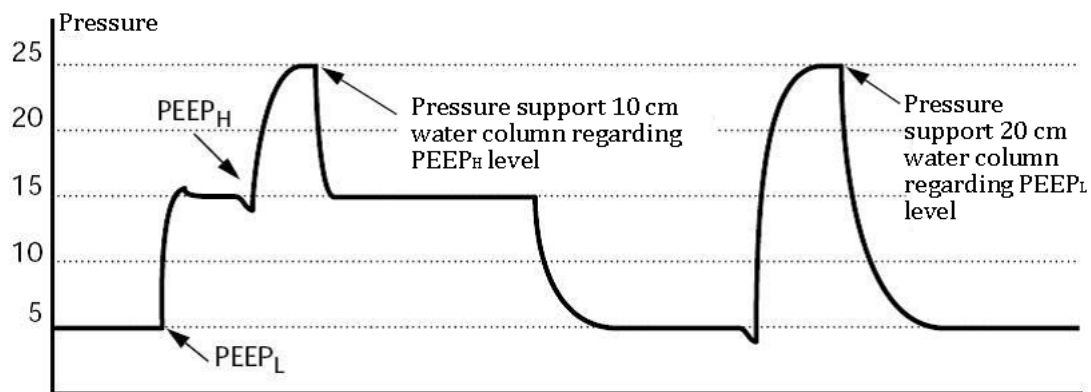

Figure 18.7 - Support pressure (PS) in mode DUAL-LEVEL
18.9.1 Using the support pressure (PS) of spontaneous breaths in mode DUAL-LEVEL
Pressure support (PS) in DUAL-LEVEL mode is performed in accordance with the following rules (see Figure 18.7):